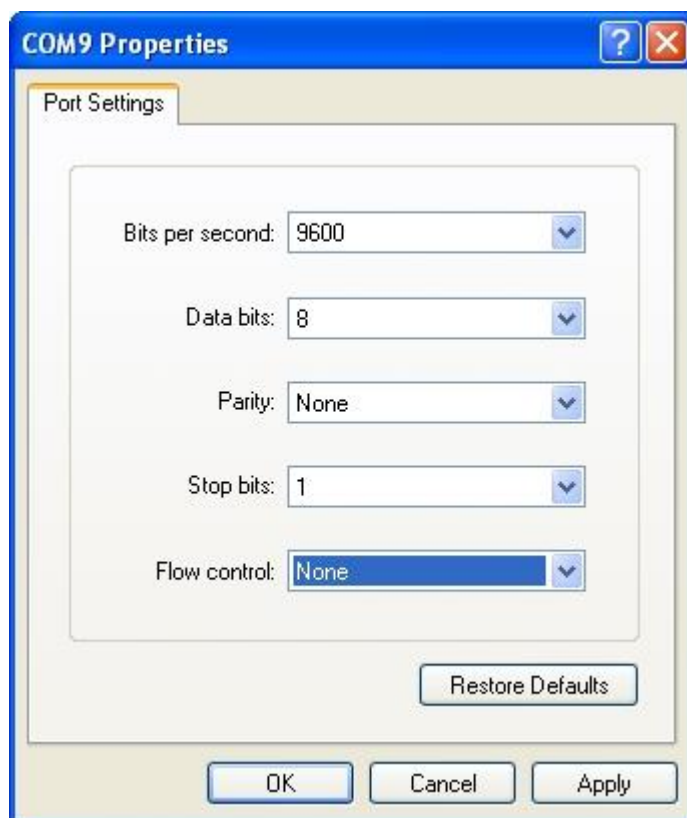

Figure 4-2: Setting Parameters for the Terminal Session
2. Run the terminal emulation program on the PC (e.g. hyper terminal of Windows XP/Windows 2000) to set up a connection. Set the parameters of the terminal session to 9600bps, 8 data bits, 1 stop bit, none parity, and none flow control, as shown in Figure 4-2: